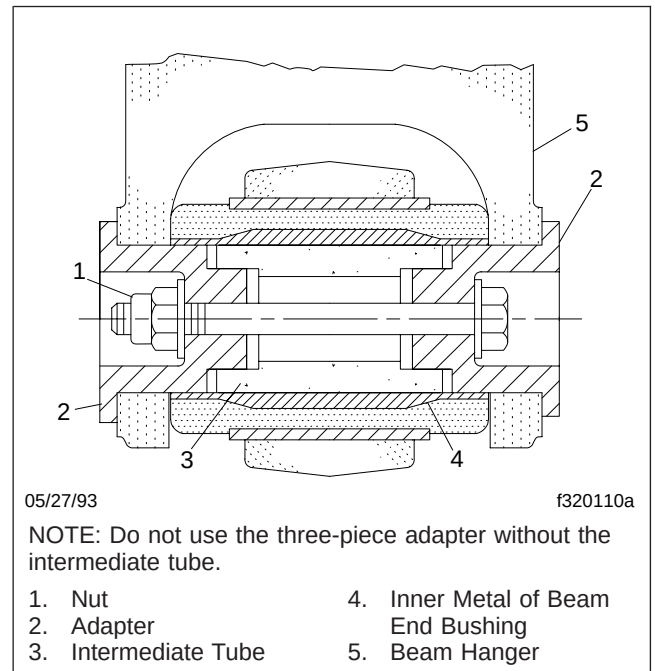
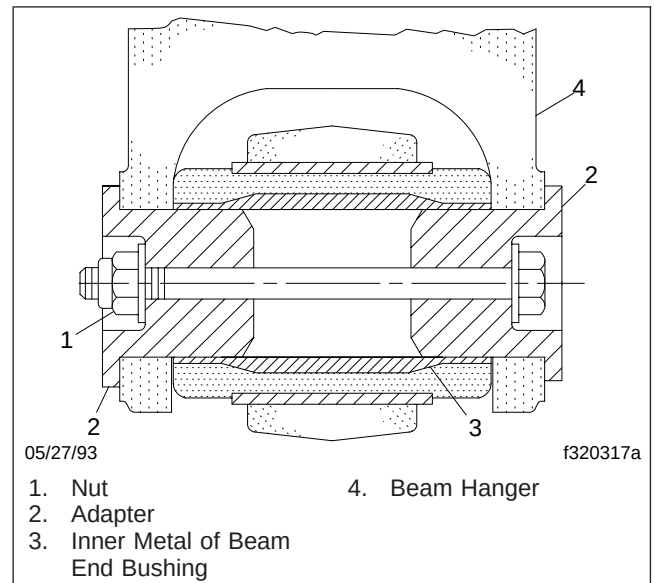

Fig. 6, Three-Piece Adapter-Type Beam End Connection
Fig. 7, Two-Piece Adapter-Type Beam End Connection
4. After repairs to the suspension, check the fastener torque after the vehicle has been in service for 2500 miles (4000 km). If equipped with the adapter-type beam end connection (see Fig. 6 for the three-piece adapter-type beam end connection, or Fig. 7 for the two-piece adapter-type